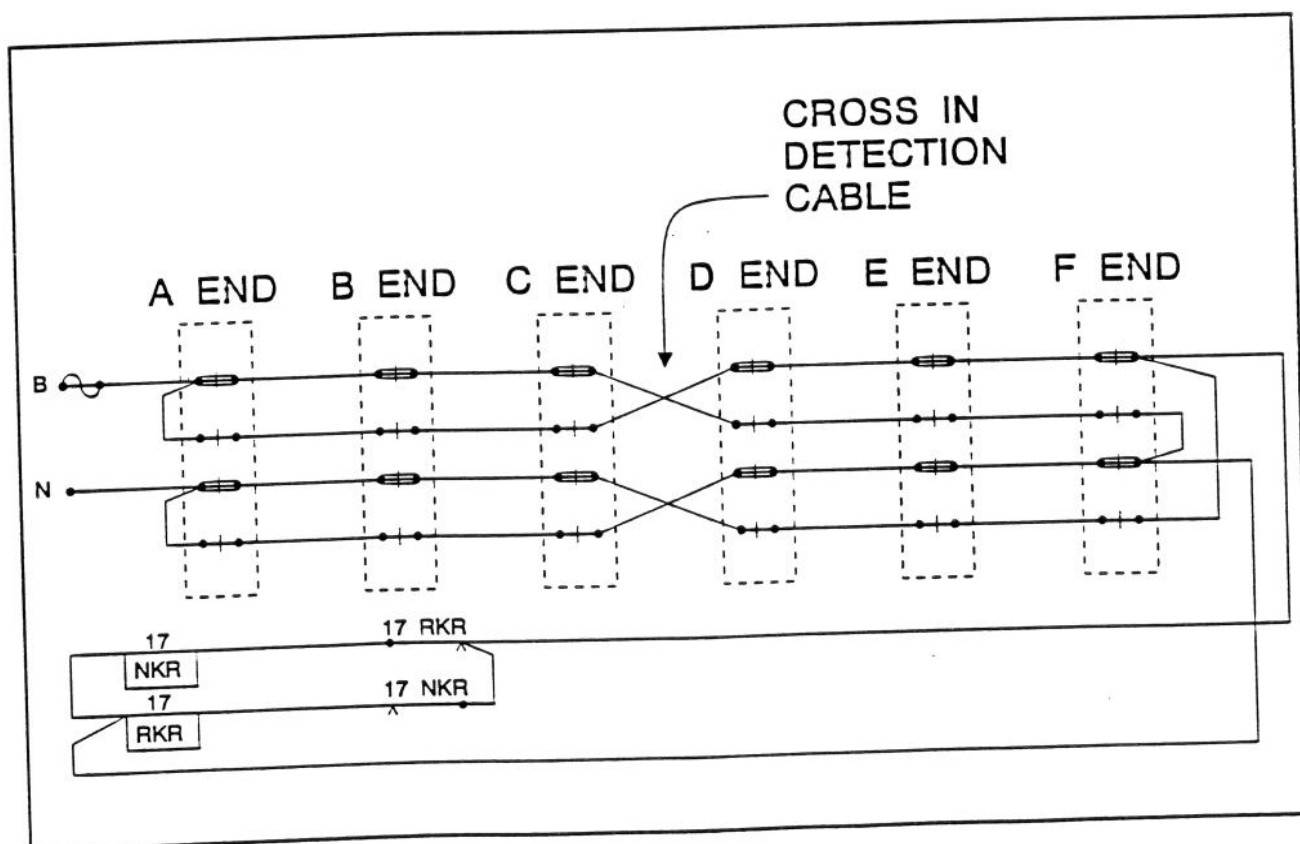

Figure 11 Detection Circuit With Wiring Crosses
- 4) The detection cables between B & C, and, C & D end in Figure 11. have been changed.